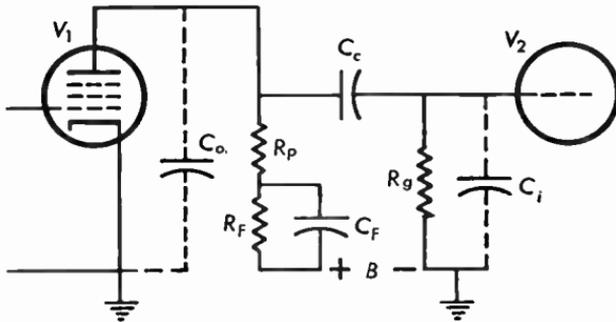

Fig. 11.39a Resistance-capacitance coupled amplifier with the low-frequency compensation circuit  $R_p C_f$ .
11.39 In the video amplifier of Figure 11.39a,  $R_p = 2000$  ohms,  $R_f = 5000$  ohms,  $C_f = 8$  microfarads,  $R_g = 1$  megohm,  $C_c = 0.04$  microfarad,  $C_o = 5.2$  micromicrofarads,  $C_i = 10.4$  micromicrofarads,  $V_1$  has a  $g_m = 7700$  micromhos,  $r_p = 100,000$  ohms. Calculate the voltage gain at 10 cycles (a) without, (b) with the compensating circuit  $R_f C_f$ .